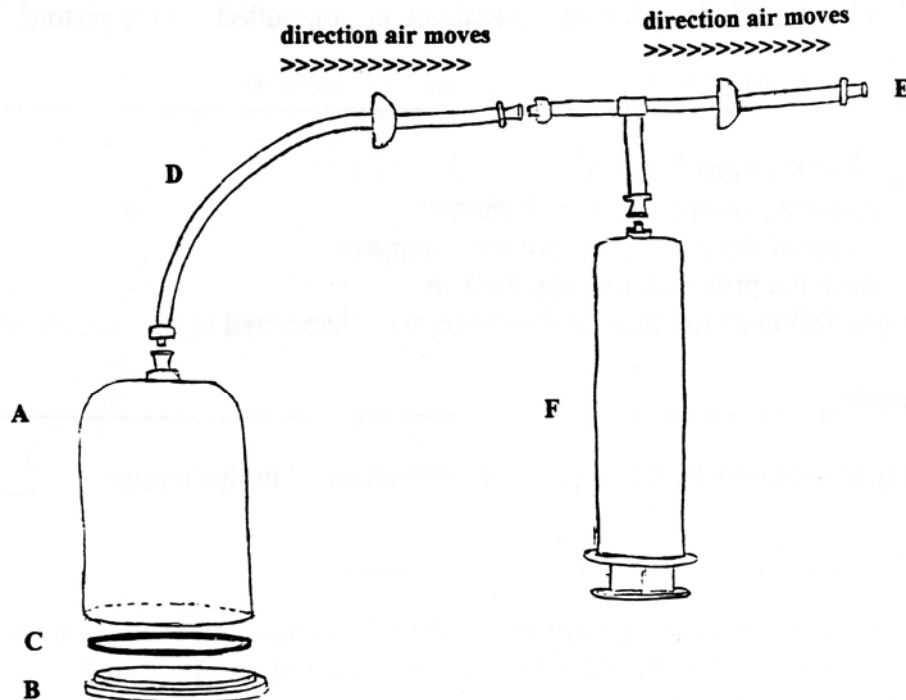

Figure 1
1. Assemble the apparatus as shown in Figure 1. Study Figure 1. The check valves will easily allow air to flow in the direction shown by the arrows, but not in the other direction. What is inside the bell jar now? (Hint: nothing is not the correct answer)